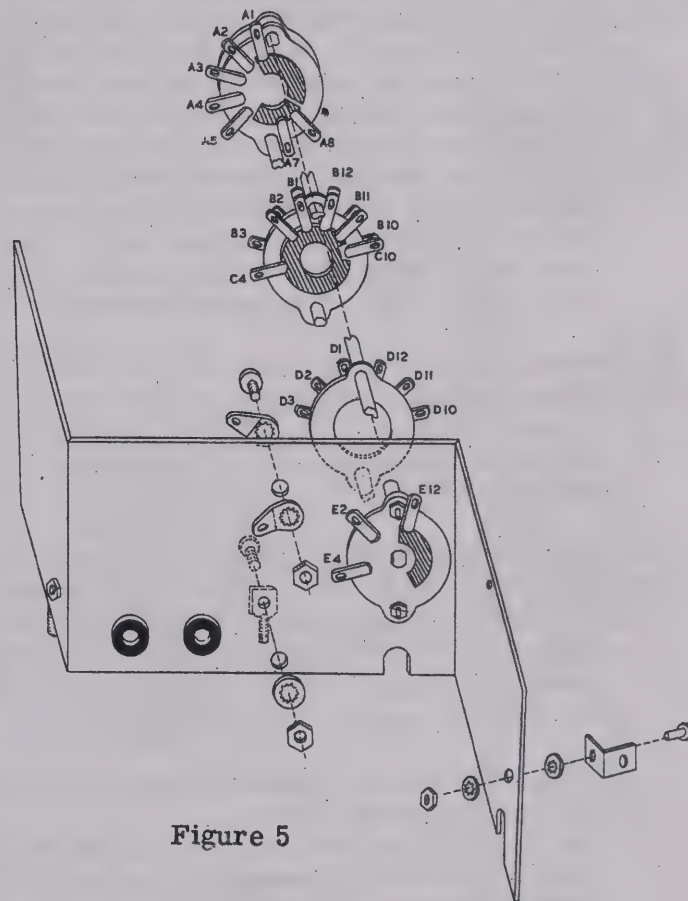

Figure 5
- () Refer to Figure 5 and identify the bandswitch and the switch mounting bracket. On the mounting bracket, install the spade bolts on the side and place as shown using 1/4" x 6-32 screws with lockwashers under the nut.
- () Examine the bandswitch carefully and you will note that there are nuts following both the third and fourth switch decks. This allows the fourth deck to be removed without disturbing the rest of the switch. Now carefully examine the spacers, insulating washers and the fourth switch deck as to position of spacers, washers, switch contacts and switch rotor. It would pay to make a rough sketch of this. Remove the last nuts on the switch and remove the assembly up to the next set of nuts, but do not touch these. Again refer to Figure 5 and slip the threaded studs of the switch through the two small holes in the switch mounting bracket from the side shown. Be sure the switch contacts appear as shown in the figure. Reassemble the back switch section on the rear of the mounting bracket in the same position and order that it was originally.